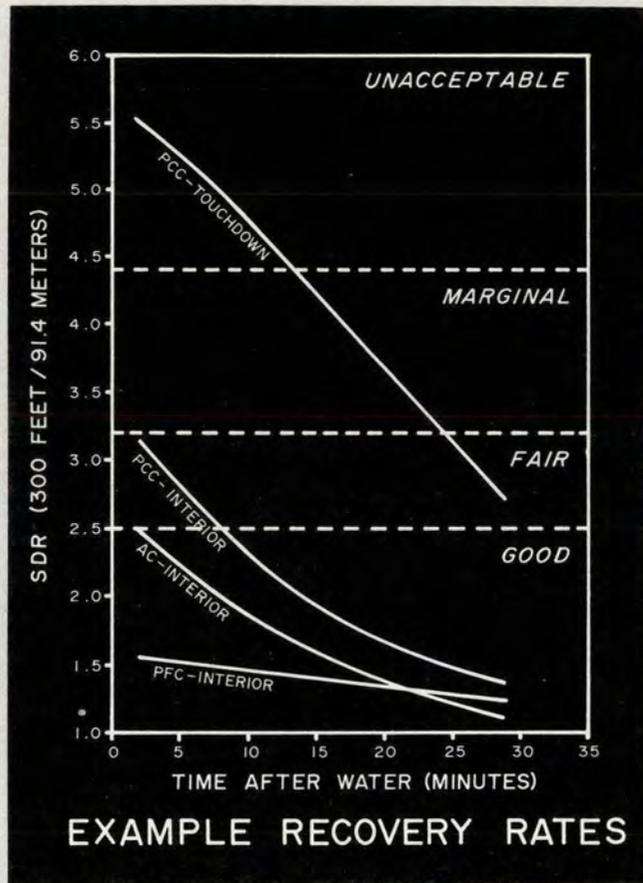

Figure 1
**D**uring the past few years, several significant changes have occurred in the availability and lead content of general aviation aircraft fuels (figure 1). These changes have left many doubts and much controversy over what fuel should be used. Since many *Aerospace Safety* readers are operators of aircraft in this category, we felt it would be beneficial to pass on the recommendations of the major engine manufacturers on the subject of aviation fuel.
The first treatment is for concrete pavements. This generally puts some dimensional grooves into the surface either at the time of construction (plastic grooving or wire combing) or by cutting into the surface after a period of operation that has shown the surface is susceptible to hydroplaning or skidding. The second method of treatment are those applied to asphaltic type pavements. While grooving has been used successfully for asphalt at commercial airports, it is not generally used on USAF asphalt runways. The primary method of treatment on asphalt has been one of several types of skid/hydroplaning resistance surface courses. These may vary all the way from overlays which improve surface drainage (with no special surface preparation) to application of Porous Friction Surfaces which provide for water drainage paths through the pavement. See Figure 1 for comparison of recovery rates on different surfaces.
frictional characteristics in a slightly different manner and the results are jointly used to evaluate each runway. Table 1 provides a description of the results from both pieces of equipment. Skid testing divides the runway into four distinctive segments: primary touchdown, primary braking, edge, and secondary touchdown. Each segment of the runway is evaluated and results presented to reflect expected skidding/hydroplaning potential. The edge section is evaluated to obtain data on the wear characteristics of the runway. Table 2 gives some typical ranges of hydroplaning potential obtained for the different sections and the changes that can occur between different sections of the runway. Figure 1 points out the varying recovery characteristics that are anticipated for several sections and types of pavement surfaces. These recovery graphs are indicators of the time period that could be expended